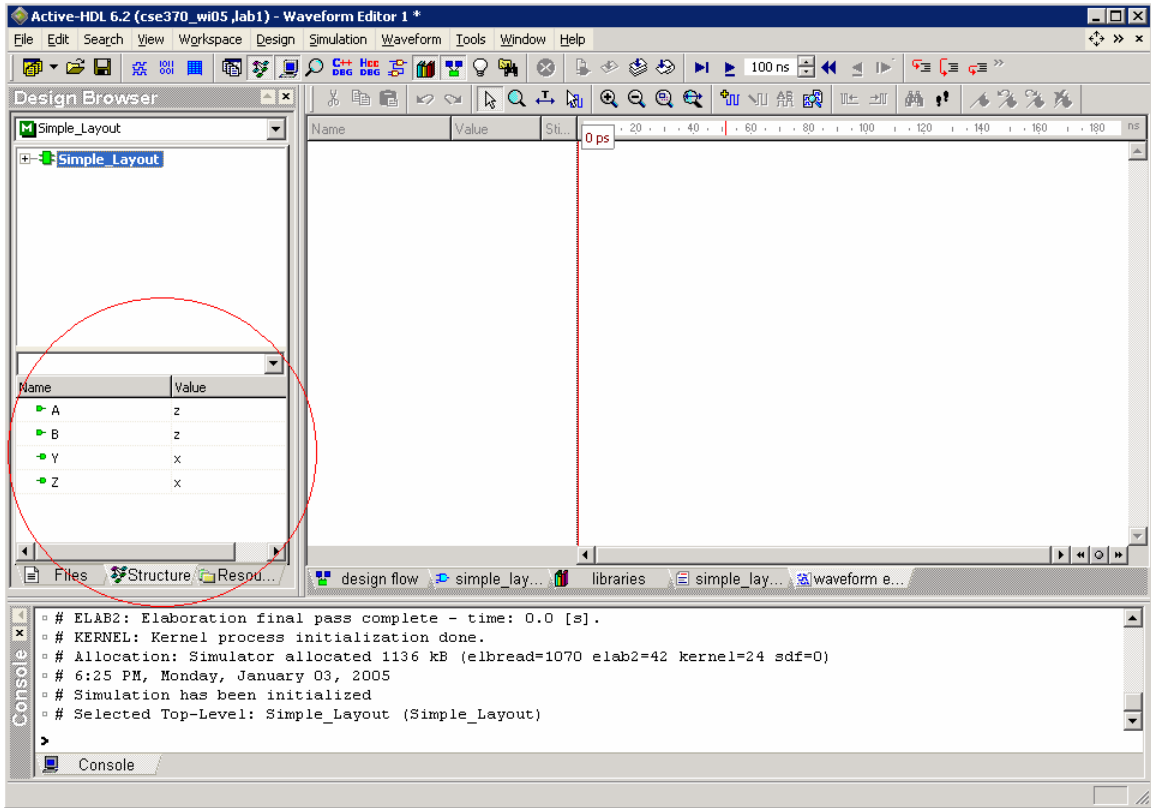

Figure 26
8. Click the file name in the top window in the Design Browser under the Structures tab. Notice in Figure 26 how the signals and wires (Nets) appear in the bottom window of the Design Browser.